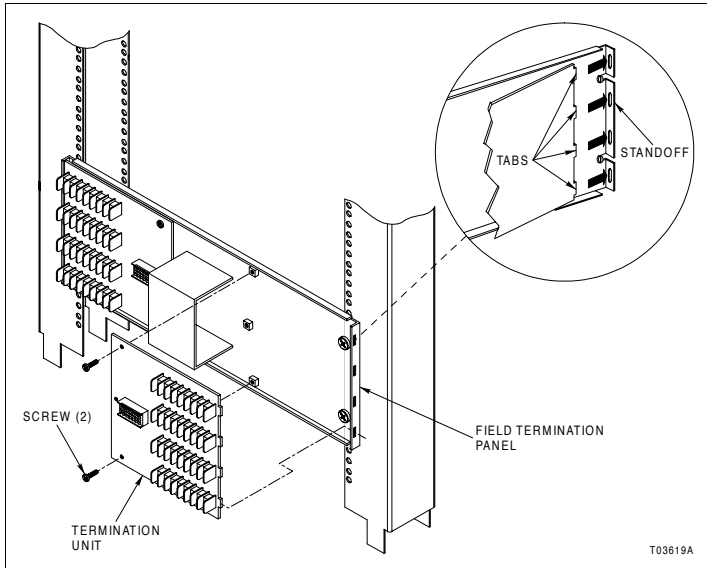

Figure PR2-1. Termination Unit Attachment
-  1. Position the termination unit on the NTFP01 panel. Insert the tabs of the termination unit into the slots of the panel standoff as shown in Figure PR2-1.